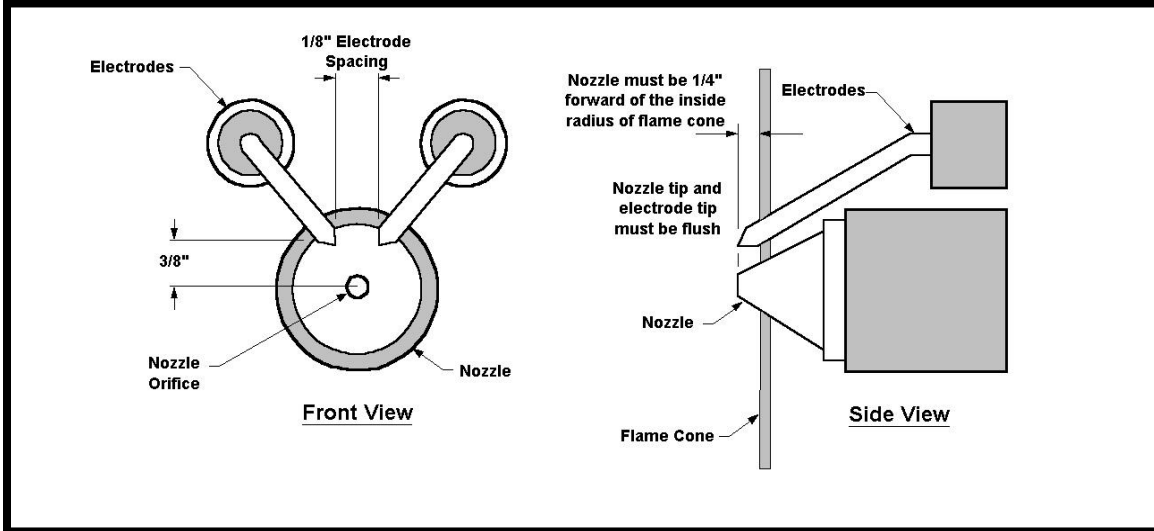

Figure 6 –Electrode Adjustment Diagram
3. **Yearly** Clean Pump Strainer (figure 8) **CAUTION DO NOT DAMAGE GASKET.** Inspect and adjust electrodes per (figure 6). **CAUTION: turn off main electrical power before checking or adjusting electrode settings.** Inspect and check alignment of nozzle in
relation to flame cone/burner tube (figure 6). Tip of nozzle must be 1/4" forward of inside radius of flame cone. If nozzle is behind inside radius of flame cone, coking will occur and flame cone can clog. To adjust, loosen Pre-Heater block securing nut and set screw, push fore or aft as needed then retighten securing nut and set screw.